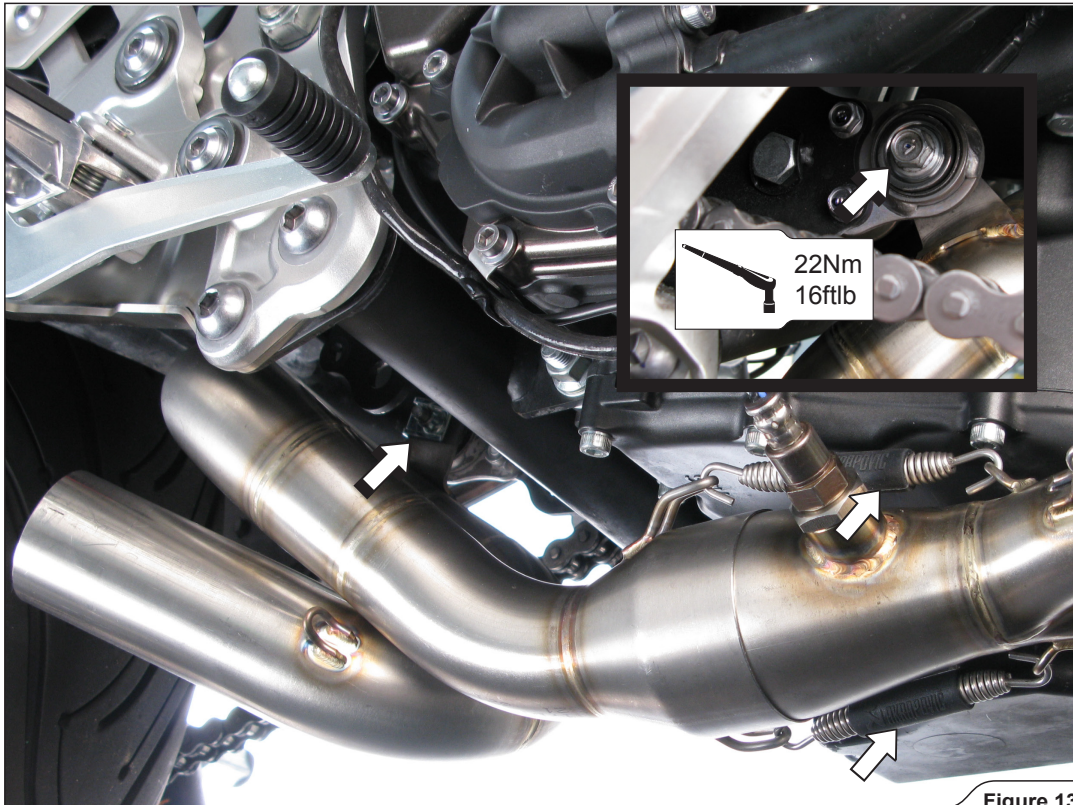

Figure 13
- Slide the link pipe onto the headers, attach the springs and tighten the left side bracket bolt, using stock bolt (Figure 13).